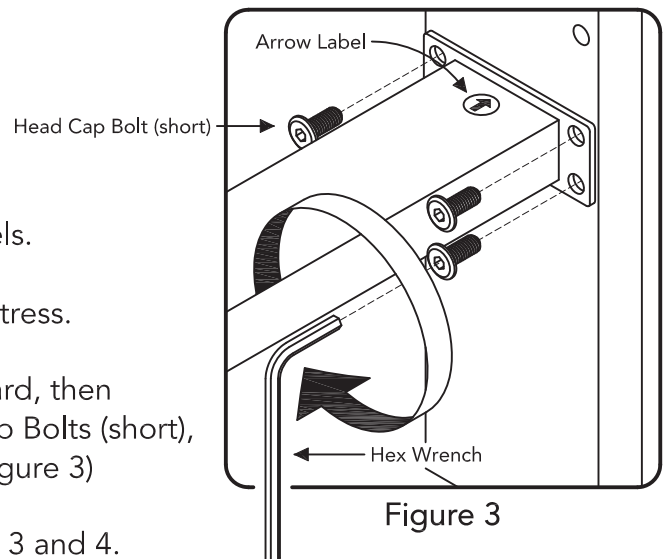

Figure 3
Orientate Support (I) so Arrow label points to Headboard, then attach Support (I) to unit at desired level with Head Cap Bolts (short), tightening Head Cap Bolts (short) only halfway. (See Figure 3)